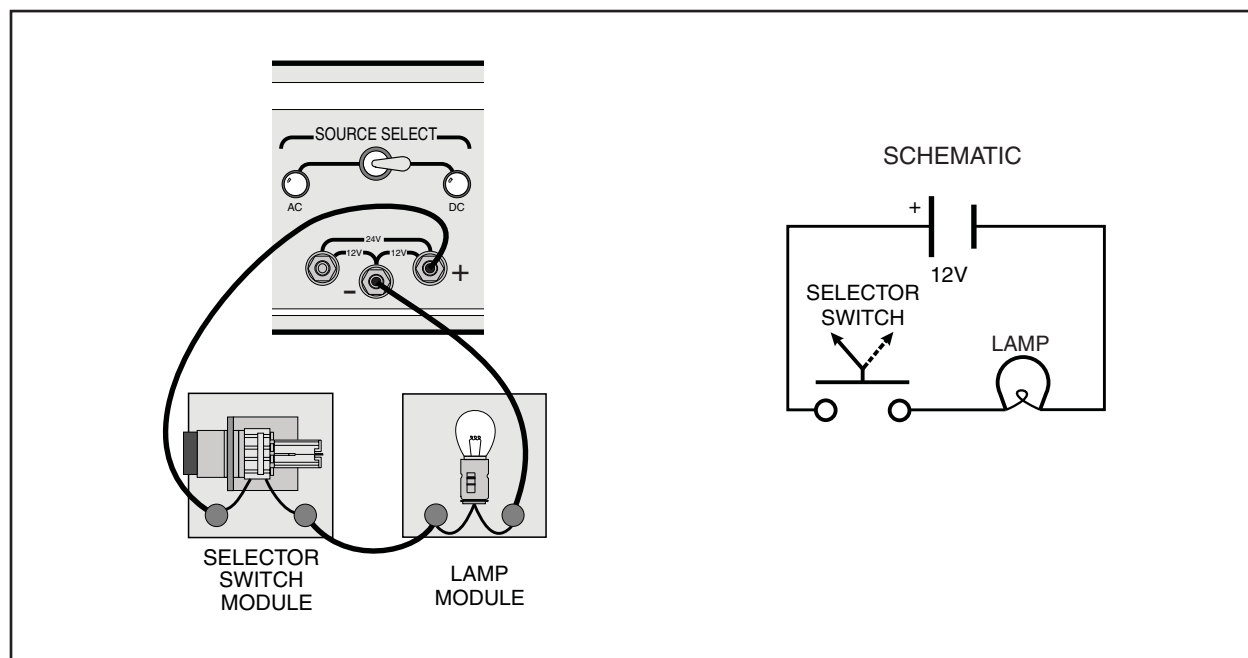

Figure 3-4. Schematic Diagram and Pictorial of a Circuit with a Selector Switch and a Lamp
□12. Connect the circuit represented by the schematic diagram in figure 3-4.